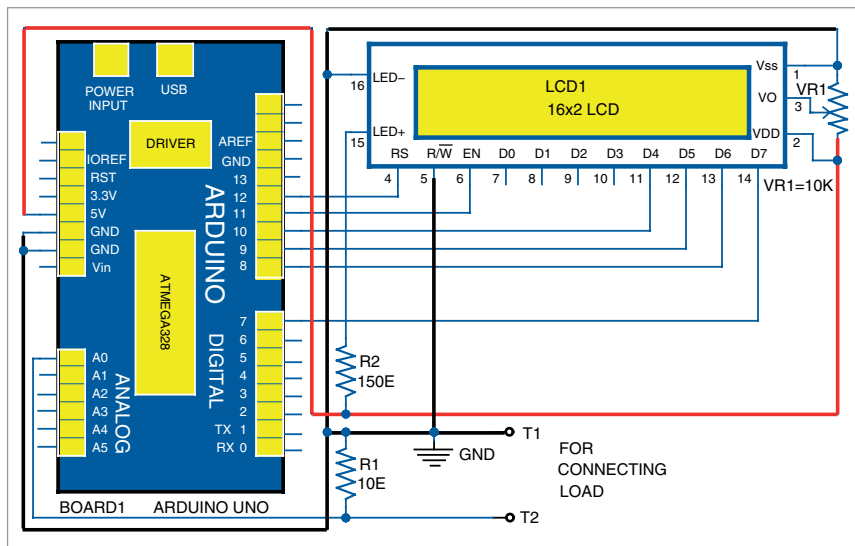

Fig. 1: Circuit diagram of milliamp meter
- 9V, 500mA adaptor/9V battery (not shown in Fig. 1)